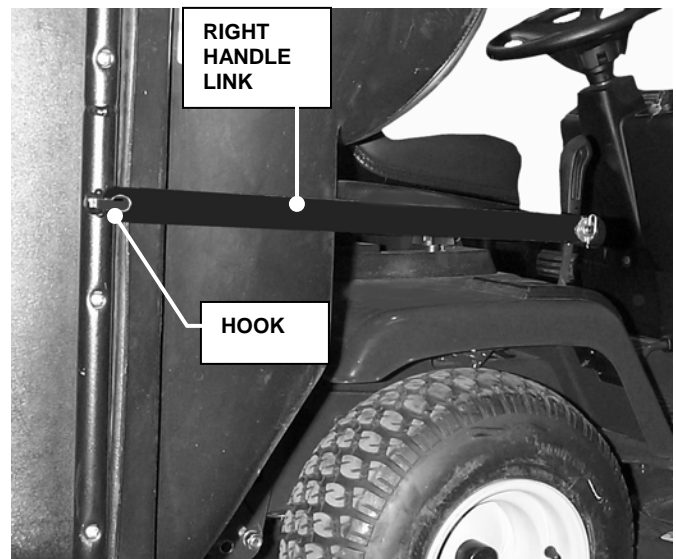

FIGURE 1.8
- A. Insert hook on the right Rear Cover Assembly into round hole in right Handle Link. **Note:** Right Handle Link is flat, no bend. See Figure 1.8.